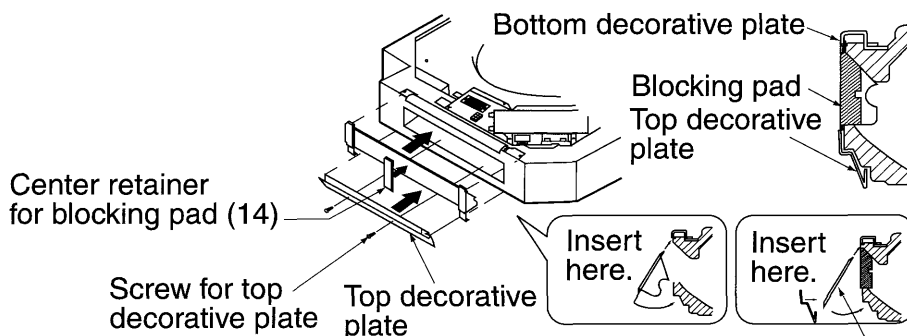

Fig. 13
4. After installing the blocking pads, attach the center blocking pad retainer and the top decorative panel. (Refer to Fig. 13)